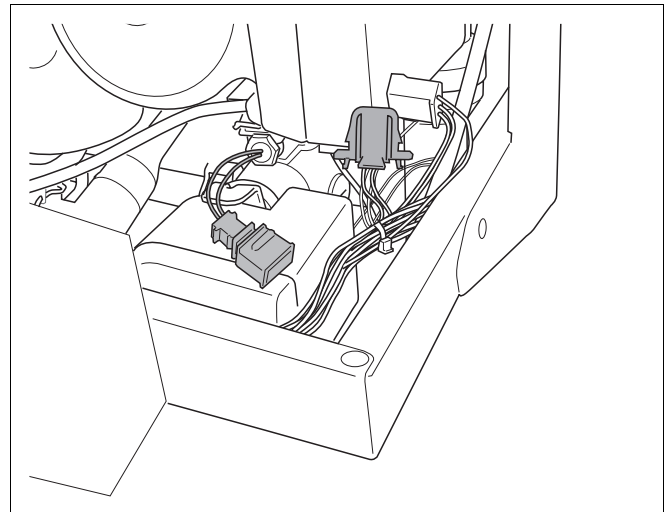

fig. 83 Disconnect return sensor
- Disconnect the return sensor (→ fig. 83).